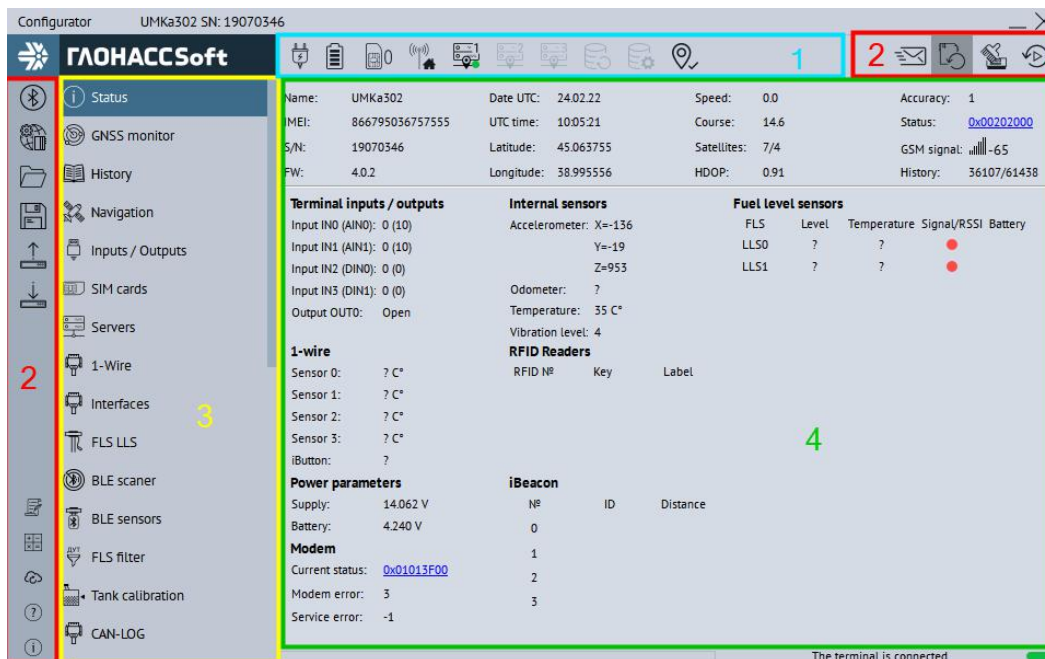

Figure 3.8 Startup window "Status"
To start the application, go "Start" → "All Programs" → "Configurator UMKa3XX." The startup window of the configurator (Figure 3.8) opens, it can be conventionally divided into four zones: Status panel (1), Toolbar (2), Settings tree (3) and Data display window (4).